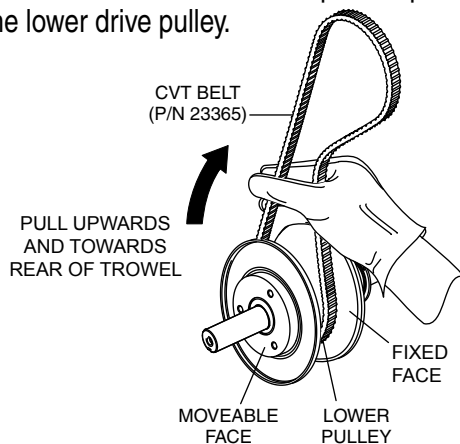

Figure 31. Holding Lower Pulley Open
1. Place new CVT belt over the lower pulley. Squeeze the belt (Figure 31) and pull the belt upwards and towards the rear of the trowel. This will spread open the faces of the lower drive pulley.